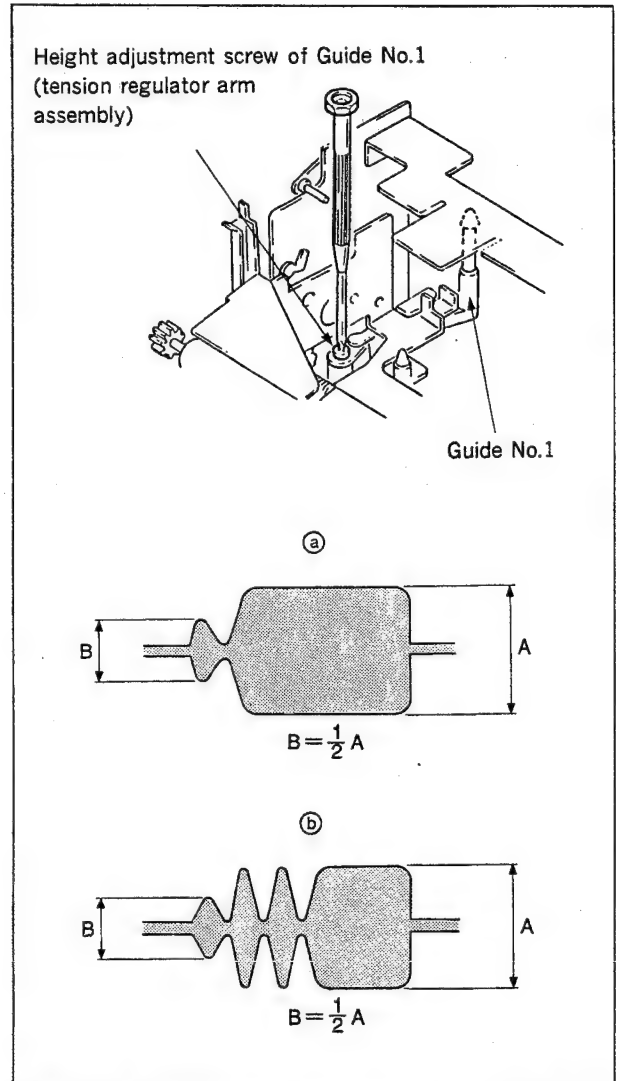

Fig. 6-2-2 Entrance side rough adjustment (2)
- 1) When the wave shape in Fig. 6-2-2 (a) has only 0.5 peak (amplitude is $1/2$ of A) or less, rotate the height adjusting screw of Guide No.1 in clockwise direction. It causes raising the height of Guide No.1.
- 2) When the wave shape in Fig.6-2-2 (b) has more than two and half peaks (1st peak amplitude is $1/2$ of A) or more, rotate the height adjusting screw of Guide No.1 in counterclockwise direction.